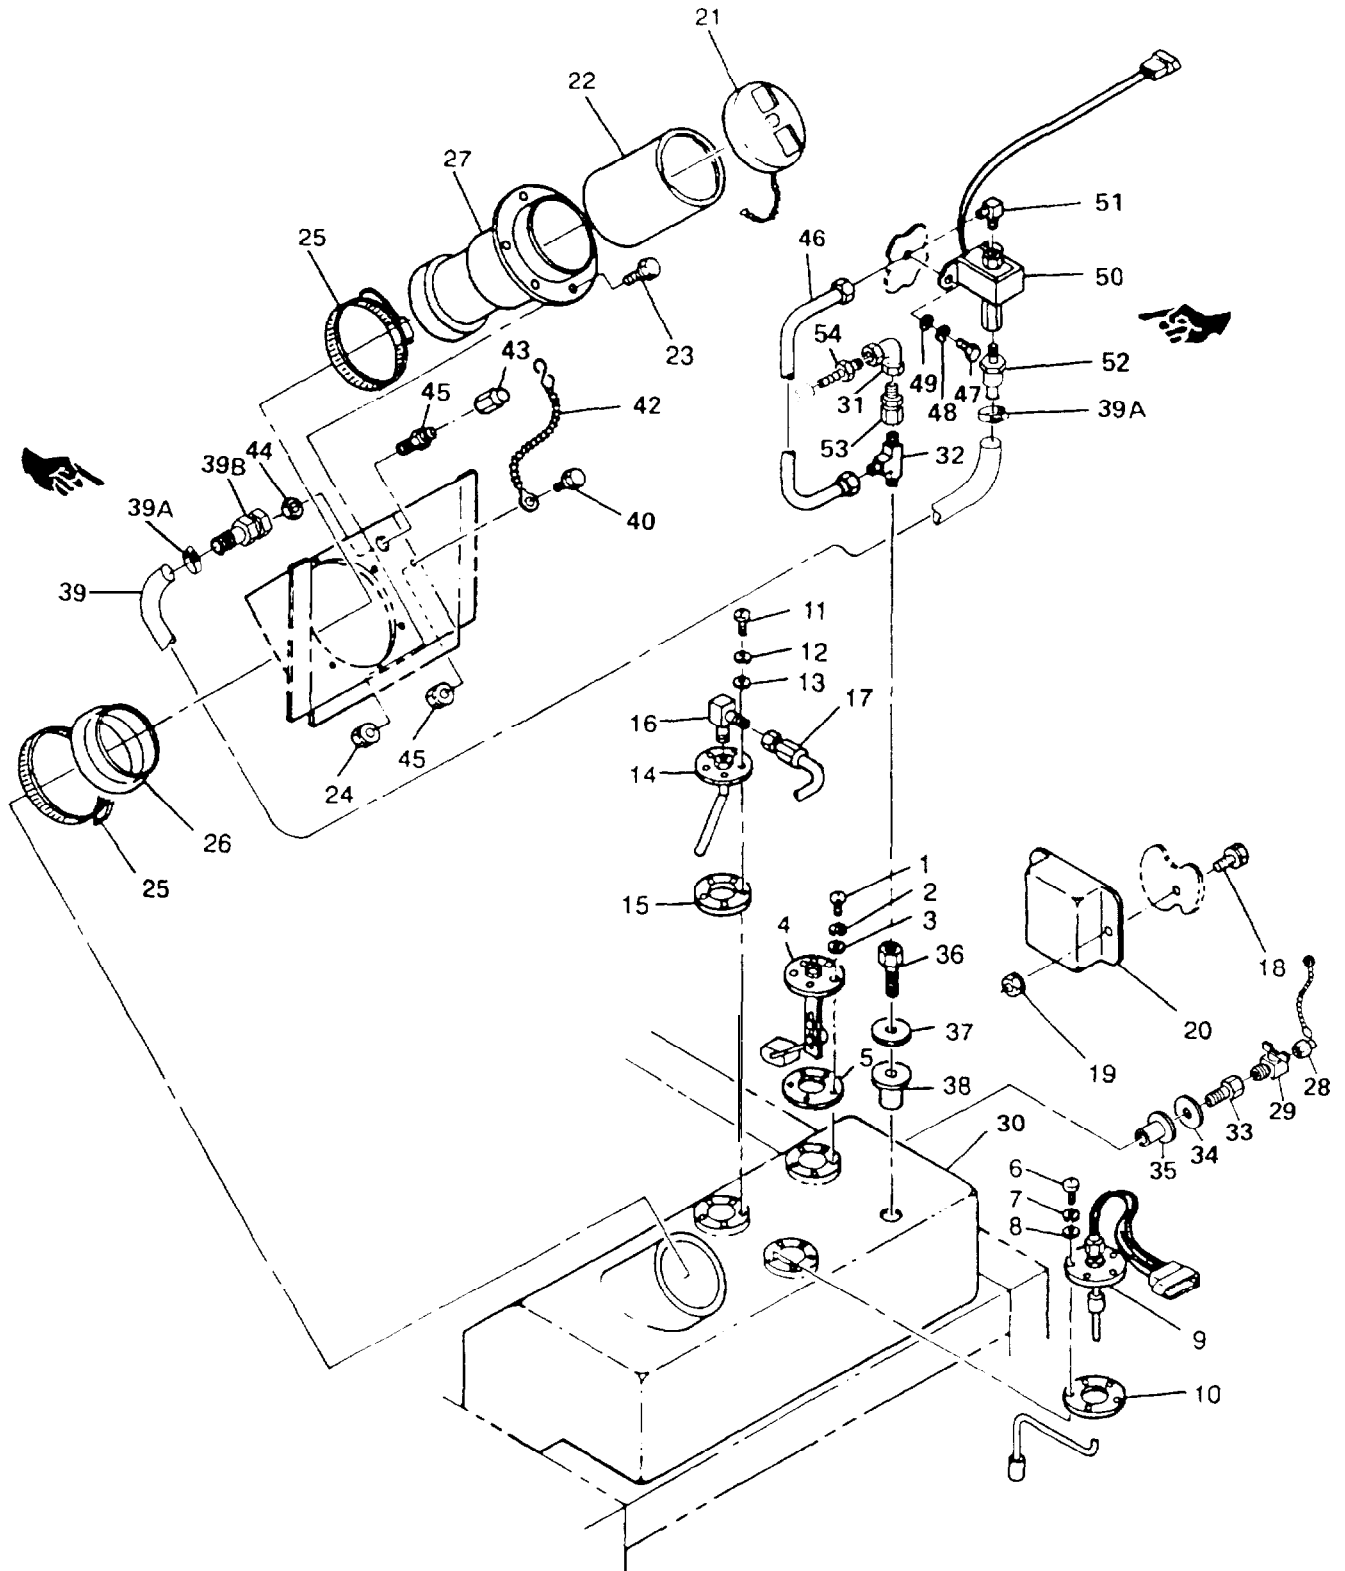

FIGURE 2-21. Fuel Tank, Switches, and Auxiliary Fuel Pump
- d. Disconnect fuel line (17, FIGURE 2-21) from fitting (16) and cap line.
- e. Remove screws (11), lockwashers (12), washers (13), fuel pickup (14), and gasket (15) from fuel tank. Cover fuel tank opening.
- f. Remove fitting (16) from fuel pickup (14).
- a. Remove cover in fuel tank opening clean, make flat, and smooth mating surfaces to gasket (15, FIGURE 2-21) ensuring for foreign material enters fuel tank. Apply sealant (Item 20, Appendix C) to both sides of gasket (15).
- b. Install gasket (15) and fuel pickup (14) in fuel tank with screws (11), lockwashers (12), and washers (13).
- c. Install fitting (16) in fuel pickup (14).
- d. Connect fuel line (17) to fitting (16).
- d. Tag and disconnect fuel float module (20, FIGURE 2-21) electrical connector (J12) from fuel float switch electrical connector (P12).
- d. Tag and disconnect electrical connector from fuel float module (20, FIGURE 2-21).
- e. Remove bolts (18), nuts (19), and fuel float module (20) from generator set.
- a. Install fuel float module (20, FIGURE 2-21) in generator set with bolts (18) and nuts (19).
- c. Identify fuel line to be removed as shown in FIGURE 2-21 or FIGURE 2-22.
- d. Remove filler cap (21, FIGURE 2-21). Rotate tube (22) one quarter turn counterclockwise, and remove from filler neck (27).
- e. Remove bolts (23) and nuts (24).
- f. Remove clamps (25), rubber collar (26), and filler neck (27) from fuel tank opening.
- c. Inspect rubber collar (26, FIGURE 2-21) for cracks, wear, or other damage.
- d. Inspect filler neck (27), clamps (25), tube (22), and cap (21) for corrosion, cracks, or other damage.
- a. Position filler neck (27, FIGURE 2-21) onto fuel tank opening.
- b. Install rubber collar (26) and clamps (25) onto filler neck (27) and fuel tank opening.
- c. Install bolts (23) and nuts (24).
- d. Install filler cap (21) and tube (22).
- c. Remove cap (28, FIGURE 2-21), open fuel drain valve (29) and drain all fuel into suitable container.
- d. Remove fuel drain valve (29) from fitting (33) at left side skid.
- a. Install fuel drain valve (29, FIGURE 2-21) in fitting (33) at left side skid.
- b. Install cap (28) on valve (29). Ensure fuel drain valve (29) is closed.
- f Remove fuel tank (30, FIGURE 2-21) from generator set
- g Remove fitting (54), elbow (31), reducer (53), and fitting (32) from fuel tank fitting (36)
- h Remove fittings (33) and (36), washers (34) and (37), and bushings (35) and (38) from fuel tank (30).
- i Remove fuel float switch, paragraph 2-77.2, fuel level sender, paragraph 2-76.2. and fuel pickup, paragraph 2-78.1 from fuel tank (30).
- a Install fuel level sender, paragraph 2-76.4, fuel float switch, paragraph 2-77.4, and fuel pickup paragraph 2-78.3 in fuel tank (30, FIGURE 2-21).